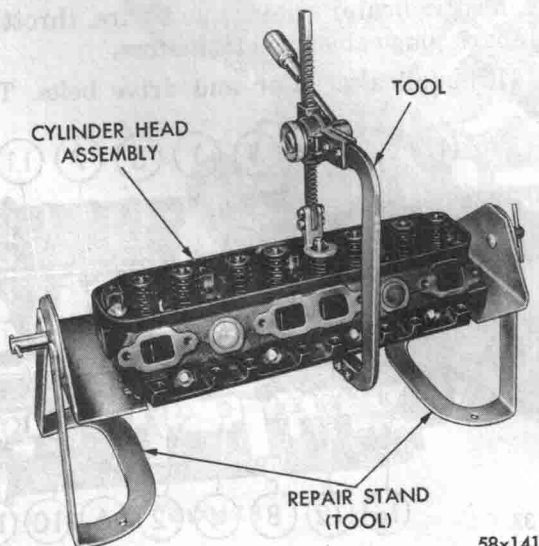

Fig. 19—Compressing Valve Spring
(1) With the cylinder head removed, compress valve springs using Tool C-3422, as shown in Figure 19.
(2) Remove the valve retaining locks, valve spring retainers, valve stem cup seals and valve springs.